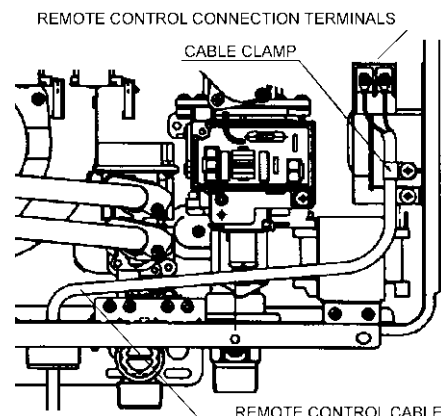

fig.2
4. Connect the spade connectors to the terminals marked "Remote Control" on the printed circuit board (fig. 2). Polarity is not important. Either wire colour can be connected to either terminal.
9. Thread the 3 cables through the cable access hole at the base of the appliance. Connect the 4 spade connectors to the terminals marked "Remote Control" on the printed circuit board (fig.2). Polarity is not important. Either wire colour can be connected to either terminal.
14. Thread the 4 cables through the cable access hole at the base of the appliance. Connect the 4 spade connectors to the terminals marked "Remote Control" on the printed circuit board (fig 2). Polarity is not important. Either wire colour can be connected to either terminal.
Check that the display on ALL FOUR controllers is lit and displaying a temperature when 'switched on'. If any ONE of the controller displays two dashes (see fig. 2) in the display repeat STEP 1.